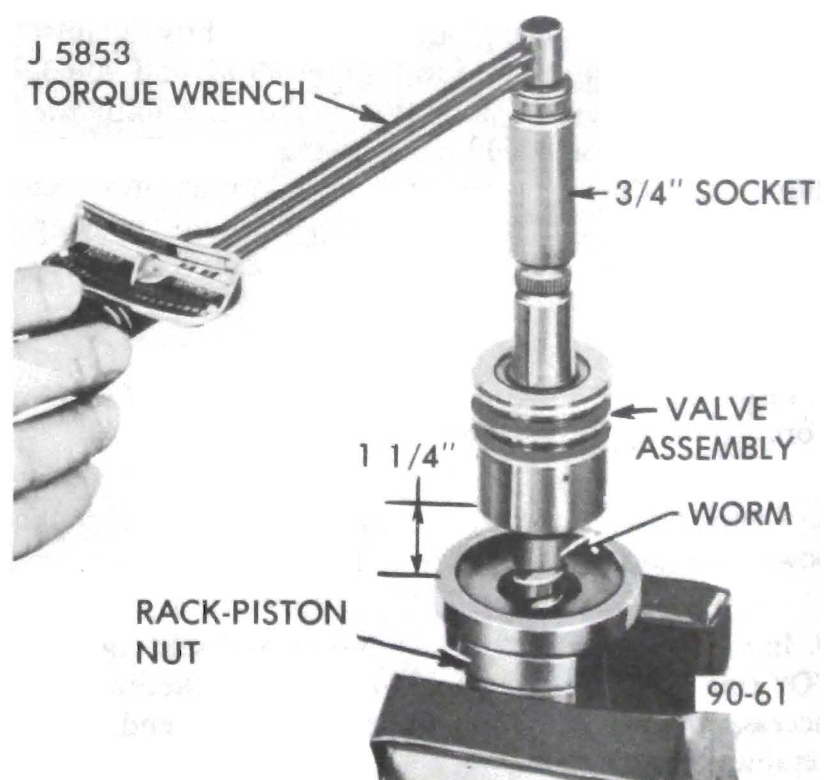

Figure 90-61 Checking Rack-Piston Nut Ball Preload
8. The worm groove is ground with a high point in the center. When the rack-piston nut passes over this high point, a preload of 1 to 5 pound inch should be obtained. To measure the preload of the assembly, lightly clamp rack-piston nut in a soft jaw vise with worm pointing up. Do not distort rack-piston nut by tightening too heavily. Place valve assembly on worm, engaging worm drive pin. Rotate the worm until it extends 1-1/4 inches from the edge of rack-piston nut to the thrust bearing face of worm; this is the center position. Attach torque wrench J-5853 with 3/4 inch, 12 point socket to the stub shaft. See Figure 90-61. Rotate the wrench through a total arc of approximately 60 degrees (1/6 turn) in both directions several times and take a reading. The highest reading obtained with the worm rotating should be from 1 to 5 pound inch. If the reading is too high, disassemble and reassemble, using the next size smaller plain balls and recheck. (A rack-piston nut with a ball size of 7 does not have a number stamped on the flat surface. For ball sizes other than 7, the ball size is stamped on